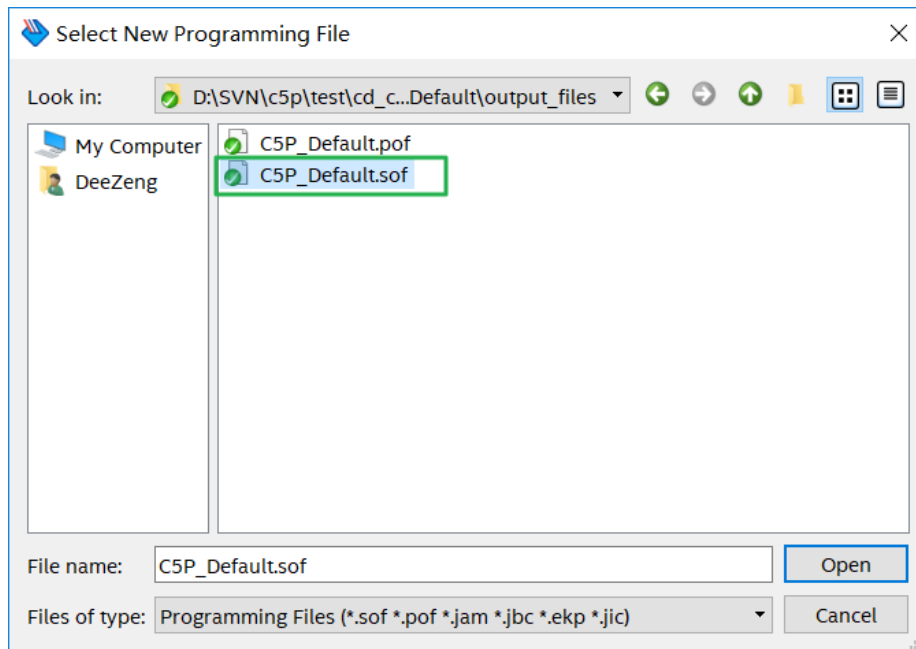

Figure 3-6 Select the .sof file to be programmed into the FPGA device
5. Select the .sof file to be programmed, as shown in **Figure 3-6**.